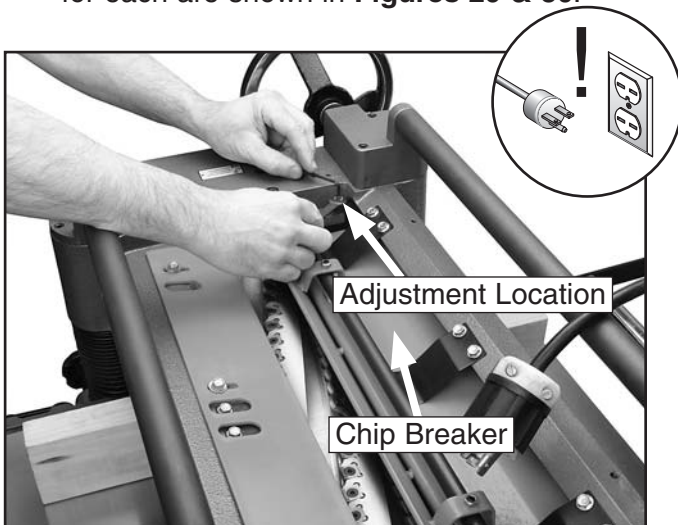
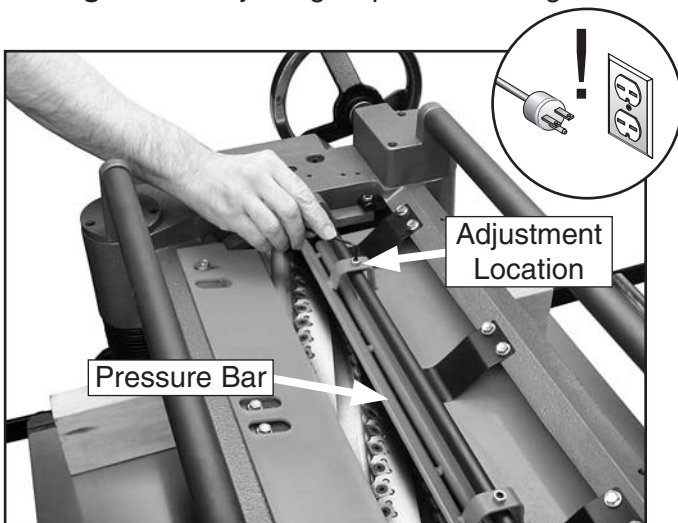

Figure 29. Adjusting chip breaker height.
Figure 30. Adjusting pressure bar height.
11. Using the same zeroed reference on the Rotacator, adjust the height of the chip breaker, pressure bar, and outfeed roller to their given specifications. The adjustment controls for each are shown in **Figures 29 & 30**.
10. Without moving the table, adjust the chip breaker (**Figure 29**), pressure bar (**Figure 30**), and outfeed roller in the same manner, using the wood blocks as your reference point.